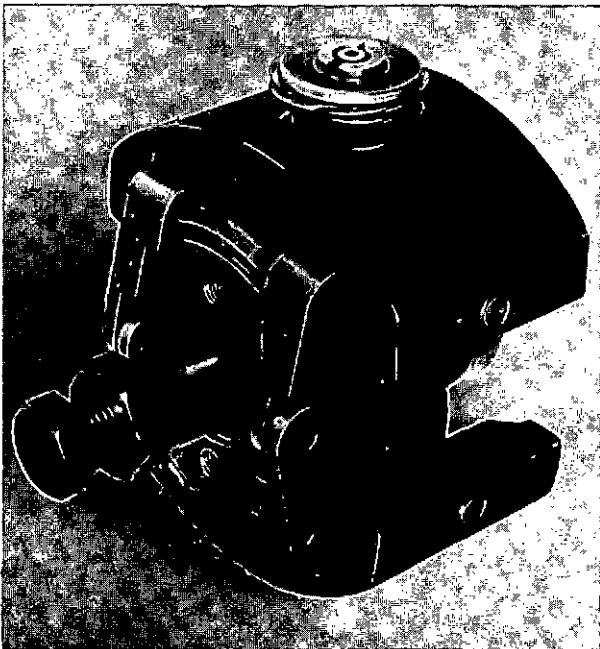

Fig. 47 Flyweight unit and extractor
3. Clamp the camshaft at its drive end and, using spanner 1 687 950 064, remove the flyweight assembly retaining nut and, if applicable, end float adjusting washer. Use extractor 1 680 363 001 (fig. 47) to withdraw the flyweight assembly from the taper on the pump camshaft.